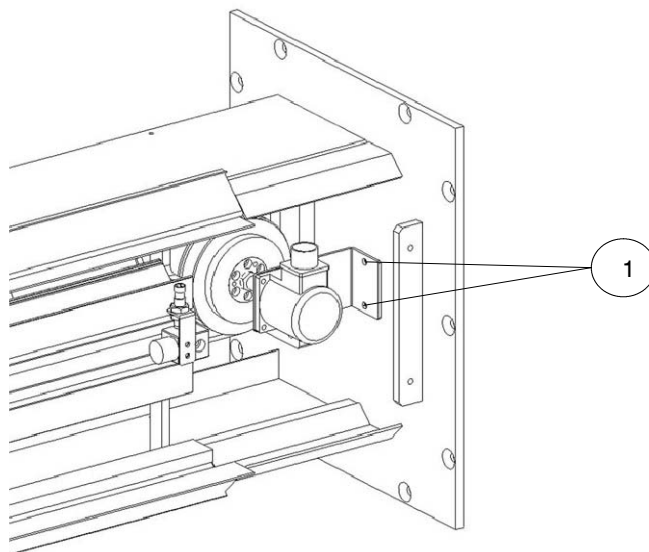

Fig. 5-14 Removing encoder
6. See Figure 5-14. Unscrew the support screws (1) of the encoder to remove the bracket.